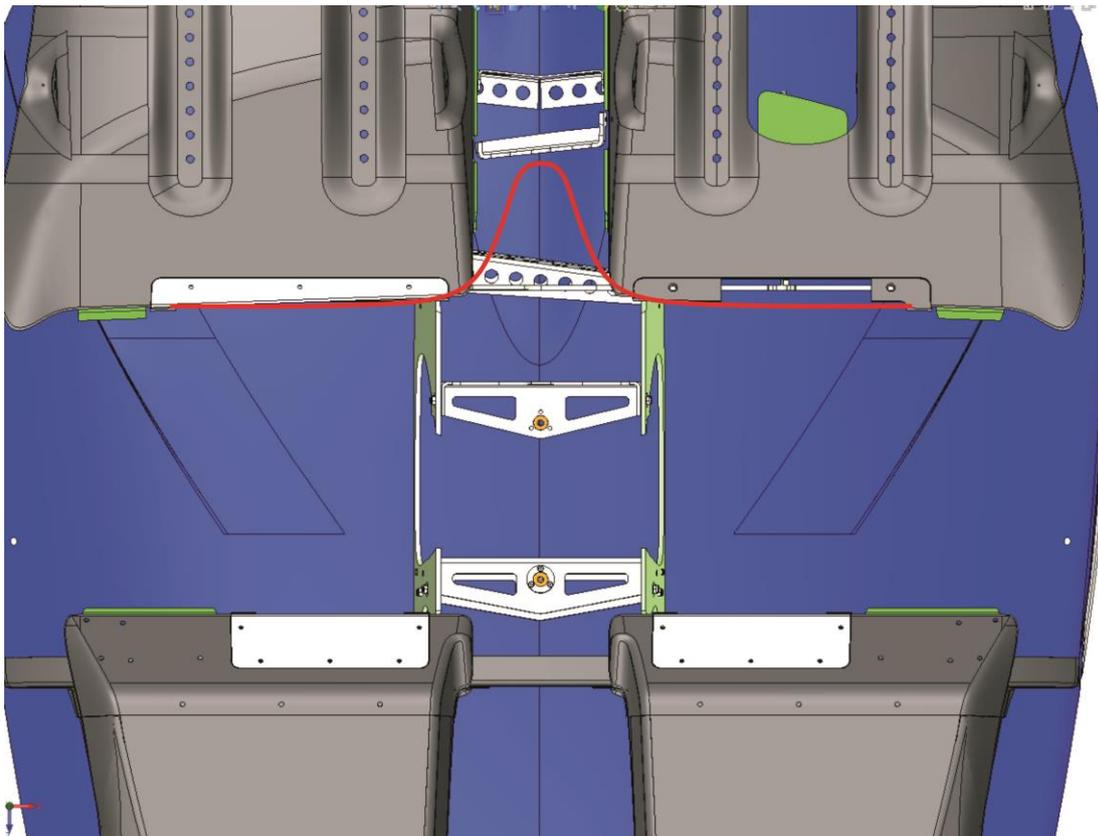

Fig. 1 – Run of the ground plate extension
- 5 Lead wire through the drilled holes in left and right frame (Fig. 1).